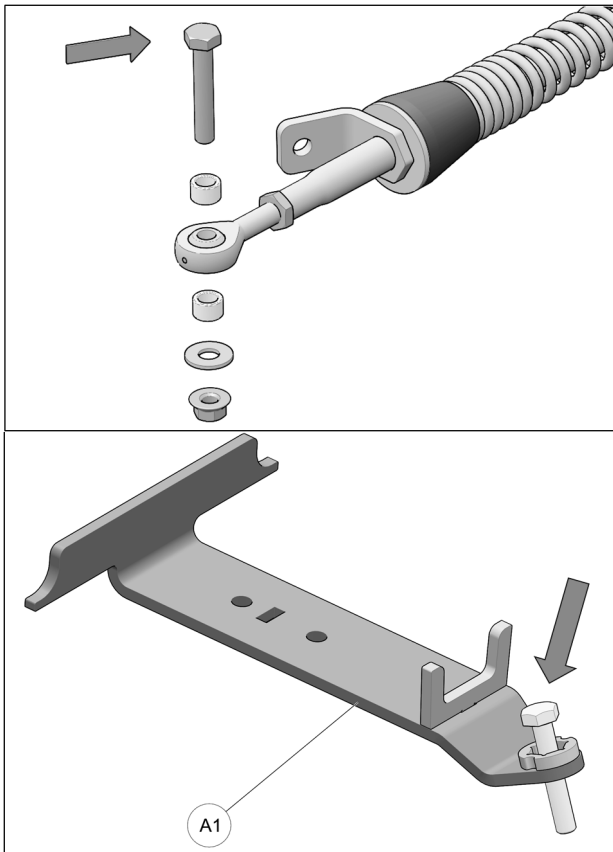

Fig. 13
- Remove bolt, washer and bushings from front stabilizing rod end and insert bolt in front anchor bracket (A1) as shown in Fig. 13